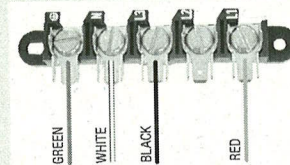

Fig. 2
- Attach the power cord ground conductor (green wire) to the ground terminal marked with the ground symbol. Tighten screw until ground conductor is secure. (See Fig. 2)
- Attach the power cord neutral conductor (white wire) to the neutral terminal. (marked N) Tighten screw until neutral conductor is secure. (See Fig. 2)
- Attach the power cord phase conductor (black wire) to the phase terminal (marked L3). Tighten screw until power conductor is secure. (See Fig. 2)
- Attach the power cord phase conductor (red wire) to the phase terminal (marked L1). Tighten screw until power conductor is secure. (See Fig. 2)